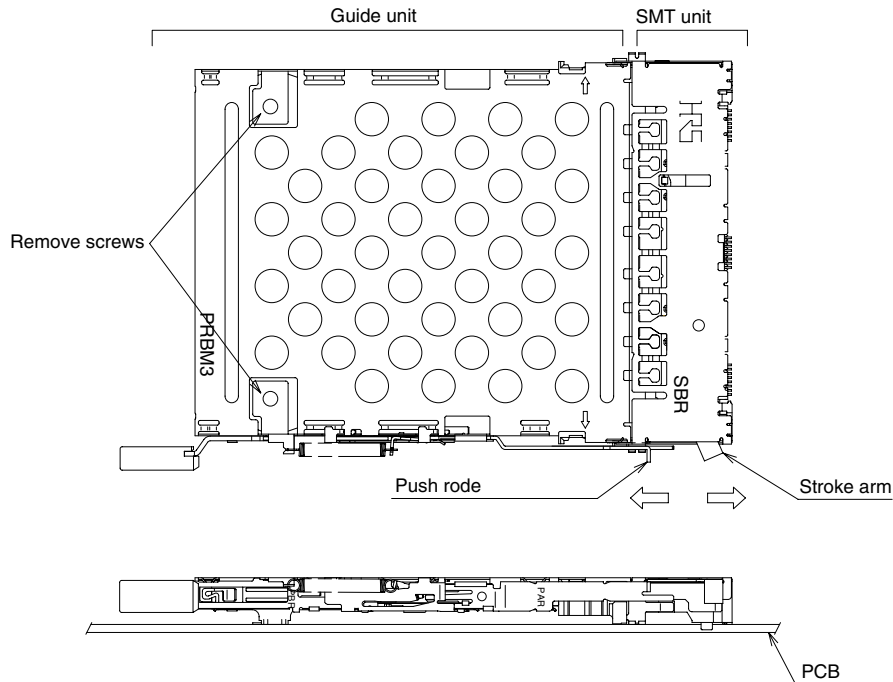

Fig. 1
- (1) Remove the 2 screws attaching the Guide unit to the PCB.
- (2) Make sure that the stroke arm of the SMT unit and the pushrod of the Guide unit are at the positions indicated in Fig. 1.